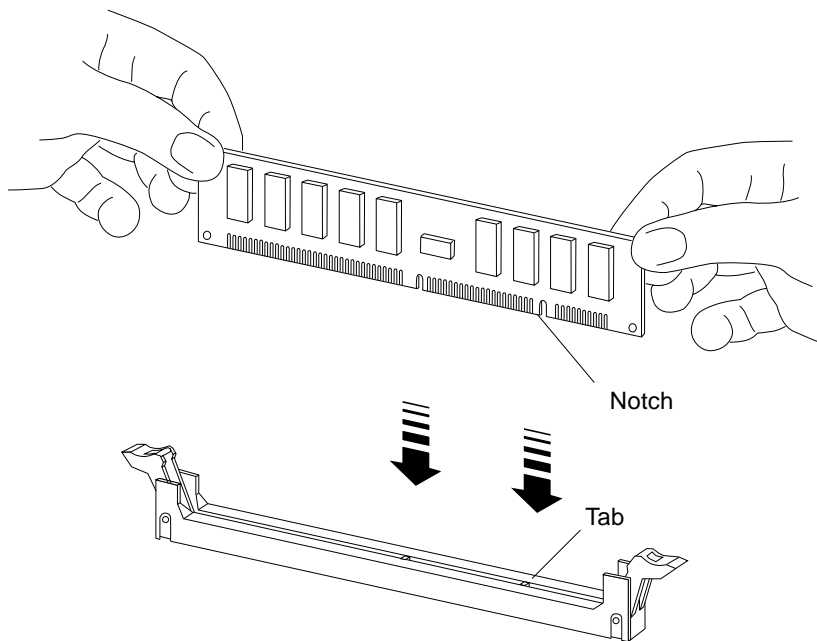

FIGURE 3-12 Orienting a DIMM
3. **Press down on the ejector levers at both ends of the DIMM connector slot that will receive the new DIMM (FIGURE 3-12).**
Hold the DIMM by its edges and orient it so that the two notches at the bottom of the DIMM line up with the two tabs in the DIMM connector (FIGURE 3-12).